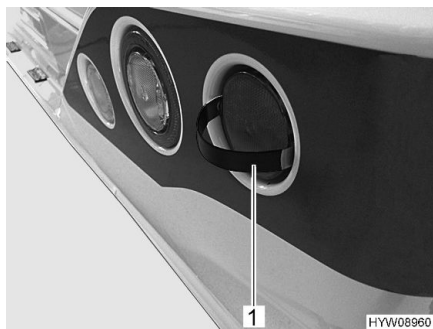

Fig. 122 Remove the cover
- Insert the snap-in lugs of the supplied tool (Fig. 122,1) at the sides of the cover as shown.